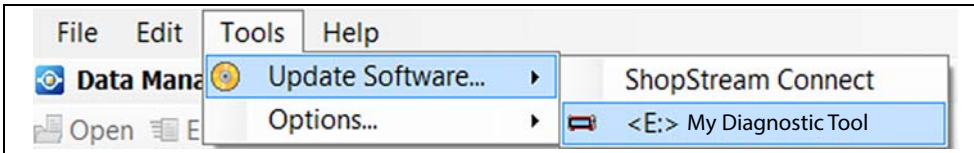

Figure 8-10
1. Select **Tools > Update Software > (diagnostic tool type - e.g. P1000)** from the Menu bar (Figure 8-10).